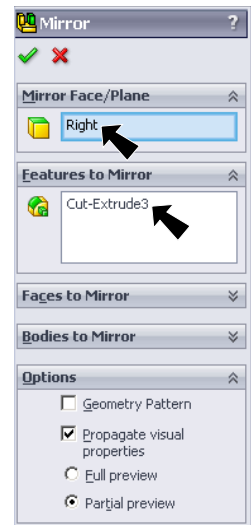
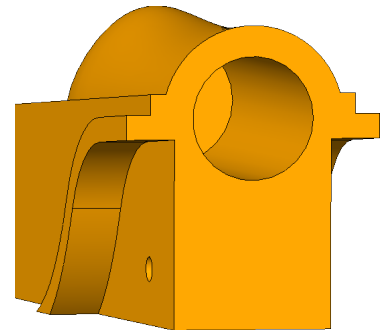

Fig. 122
Fig. 124
Step 3. In the Mirror Property Manager click OK , **Fig. 122** and **Fig. 124**.